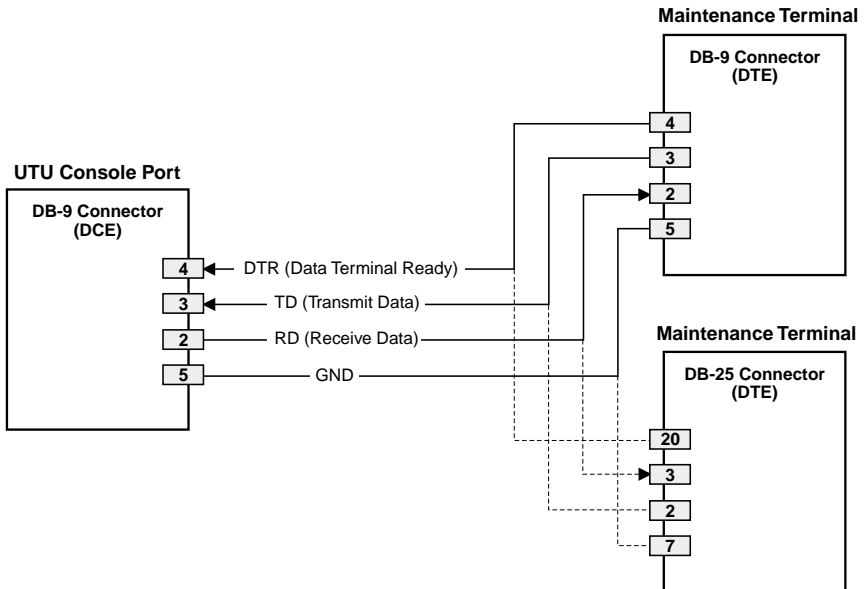

Figure 6. Pinouts for Console Port and Maintenance Terminal Connectors
- 1 Connect a standard serial cable from the maintenance terminal COM port to the UTU's front panel console port. The pinouts for the console port and maintenance terminal connectors are shown in Figure 6.